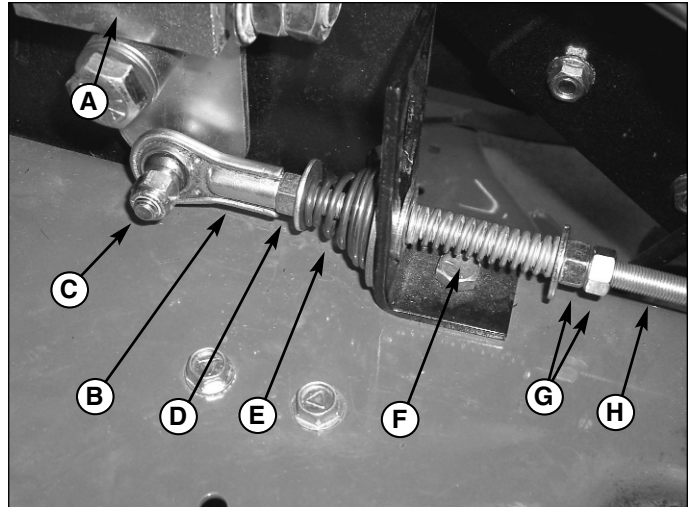

Figure 23. Neutral Adjustment (Right Side Shown)
3. Remove the hardware (C, Figure 23) connecting the rod end (B) to the control bracket weldment (A).